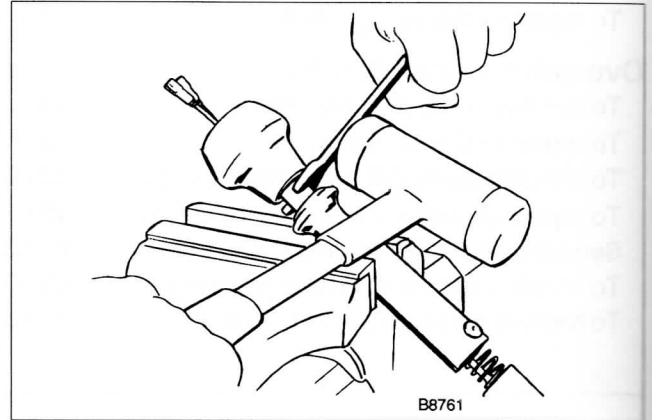

Fig. 3. Shift knob being driven off top part of shift lever. Open end wrench fits around shaft. Drive off with soft-faced mallet.
4. Secure the shift lever assembly in a soft-jawed vise and drive off the shift knob as shown in Fig. 3.